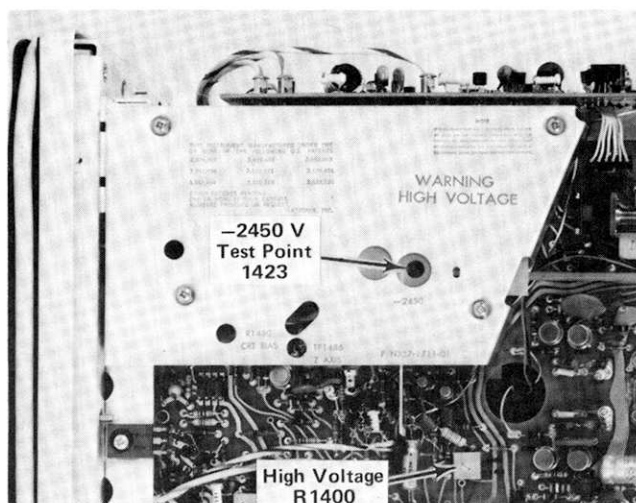

Fig. 5-3. High-voltage test point and adjustment locations.
a. Connect the DC Voltmeter between -2450 volt test point and ground (positive meter lead to ground). -2450 test point is accessible through the hole in the high voltage cover. (See Fig. 5-3.)
c. ADJUST—High Voltage adjustment R1400 (see Fig. 5-3) for a meter reading of -2450 volts ( $\pm 24.5$  volts).